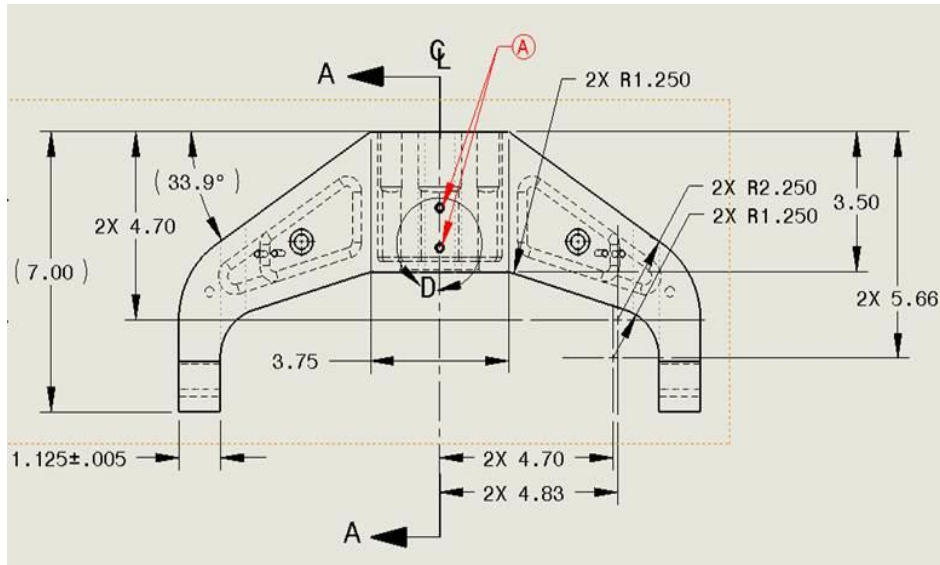

Figure 2A: Showing location of new 10-32 threaded holes.
6. Replace the aluminum AN Fittings with Stainless versions. (See Figures 2A, 2B, 3)